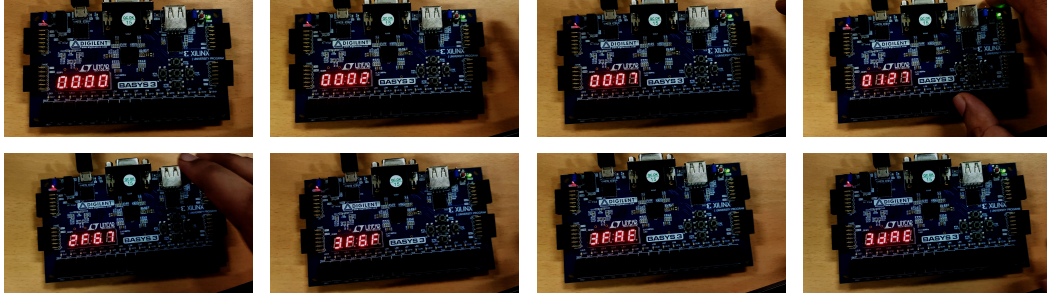

Figure 2: Running on Board
3. Finally, we ran synthesis, generated the bitstream and ran it on the board. Images of different inputs to the board can be seen in Fig 2.
After simulation, running on the actual board also gave us expected outputs. The images for some possible inputs can be seen in Fig 2.